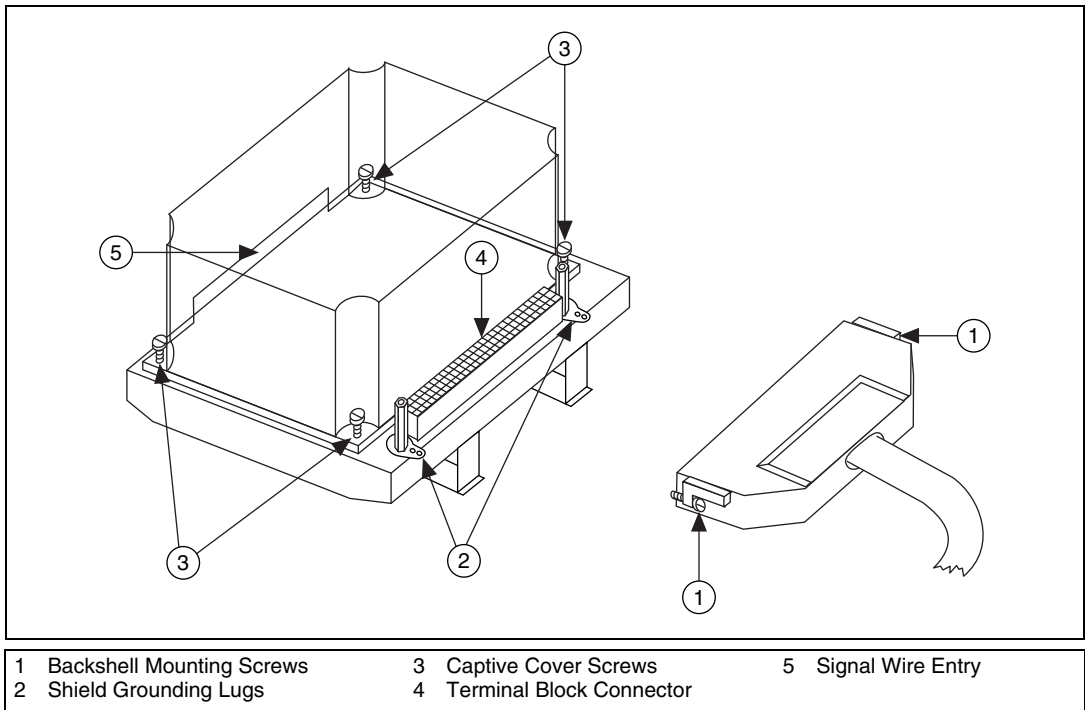

Figure 2. Connecting the SH96-96 Cable to the TBX-1303 Terminal Block
To connect field signals to the TBX-1303 for use with the SCXI-1100 or SCXI-1102/B/C module, refer to Figures 2 and 4 as you complete the following steps.
2. Connect the signal wires to the screw terminals. Refer to the SCXI module user manual for examples of how to connect to field signals and loads. Route the signal wires through the signal wire entry, shown in Figure 2.